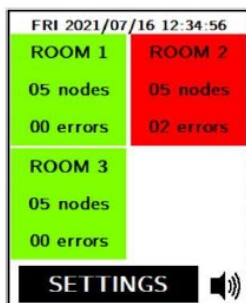

Fig. 6: Main Screen
- To change an individual FFU settings, select the room with the FFU you want to change from the Main screen, see Fig. 6. The room will show red if there is an error.